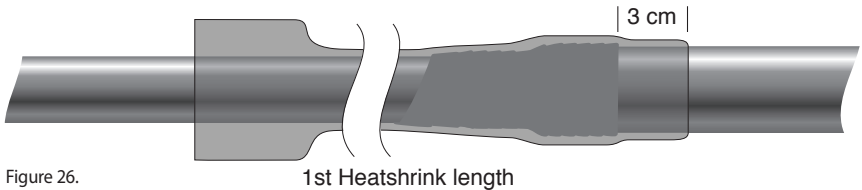

Figure 26.
10. Remove the plastic mast butt adaptor section of the mast base assembly [if fitted] by unscrewing the M6 Phillips head screw on the side. Straighten the cable as much as possible then carefully slip the first 1.2 m length of heatshrink over the cable until the end of the heatshrink tube covers and overlaps the semi-conductive tape [over the black outer sheath] by at least 3 cm [Figure 26]. Ensure that the semi-conducting tape is not damaged or lifted during this process. Using a gas torch or heat gun, carefully shrink the lower end of the heatshrink into the correct position and gradually work up towards the top of the heatshrink ensuring there are no pockets of air trapped under the heatshrink.